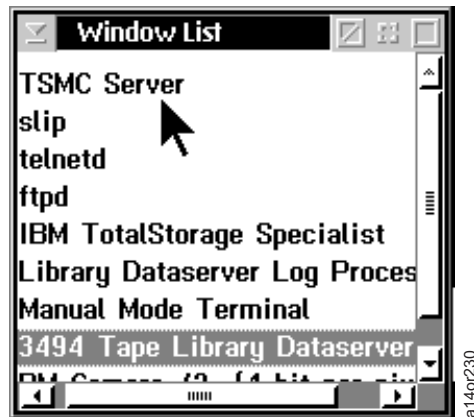

Figure 2-31. Command Process Window List – Example. The text on your screen may differ with various levels of code or with different machine model numbers.
2. Ensure that the TSSC Server is listed in the command process window. Use **Ctrl + Esc** to view the window list. See Figure 2-31 on page 2-25.
- If the TSSC Server is not included in the list depicted in Figure 2-31, you can start the TSSC Server by typing **tsmcstrt** from a command line.
- You can stop the TSSC Server. Right click **TSMC Server** from the Figure 2-31, then click on the **Close** button in the dialog box.